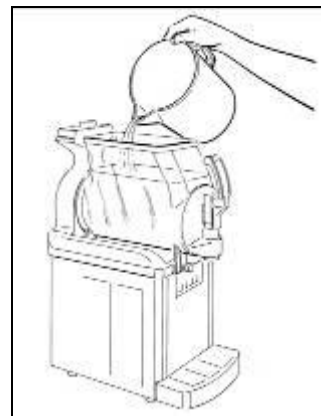

Fig. 3
- Pour lukewarm water into the bowl (fig.3) and, after re-positioning the main cover, make sure the micro-switch is correctly activated.